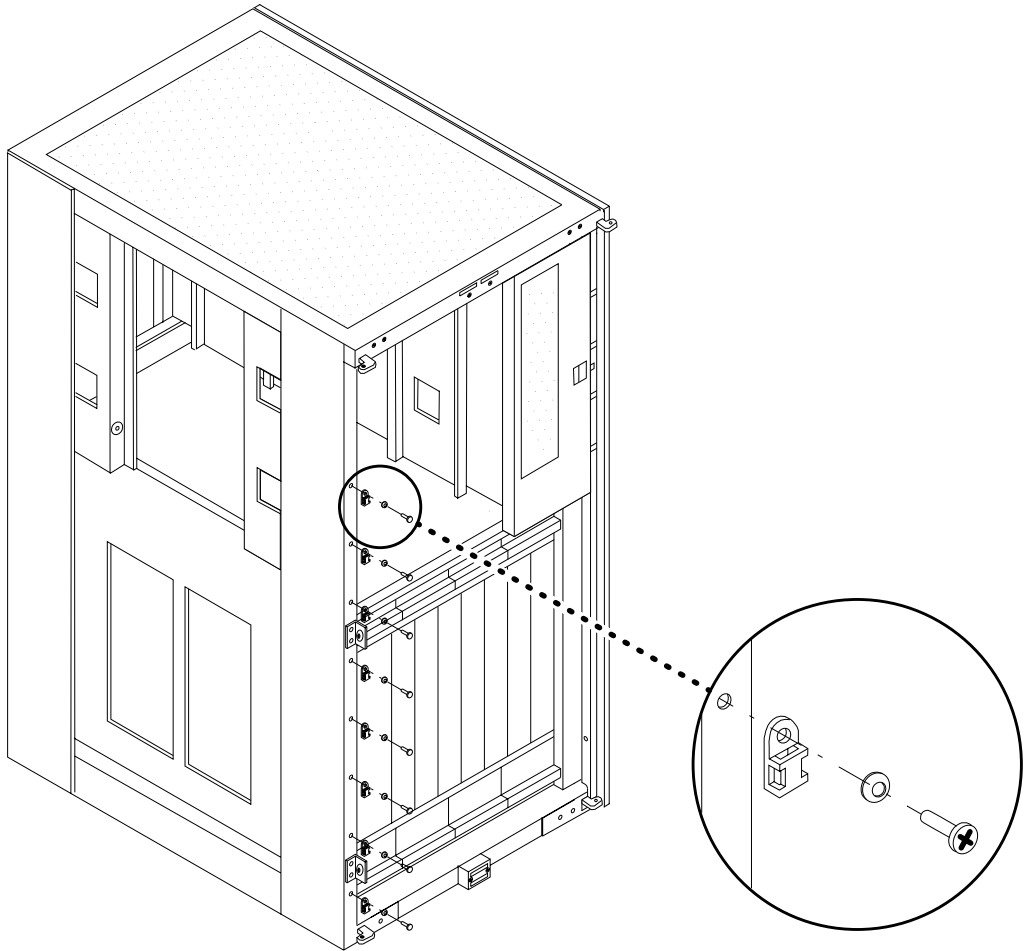

FIGURE 13 Cable Anchor Installation—Typical
- 1. Install cable anchors in eight places on the front of the chassis and eight places on the rear of the chassis (FIGURE 13).**